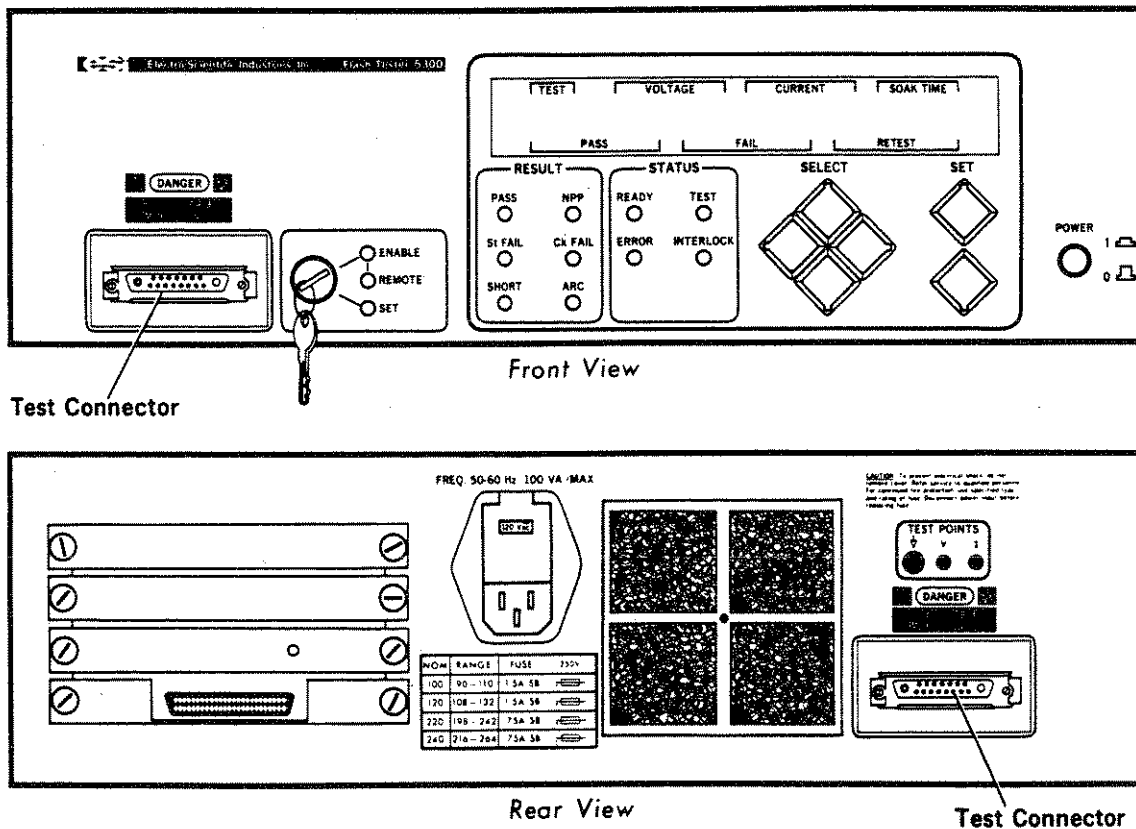

Figure 7-32. Test Connector Locations
STEP 1. Verify that there are no connections to the test connector on the instrument. Refer to Figure 7-32 for the two possible locations of this connector.
STEP 4. Plug the test cable into the test connector. Refer to Figure 7-32 for the two possible locations of this connector.